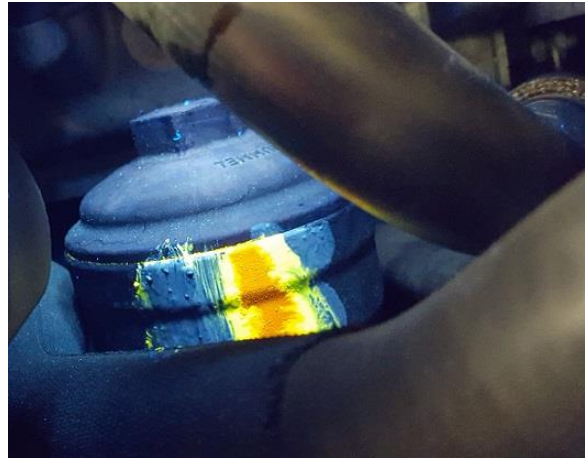

Figure 1. Example of finding a leak using the additive and UV lamp.
2. Run the engine and locate the leak using UV lamp VAS 231005 or equivalent (Figure 1).